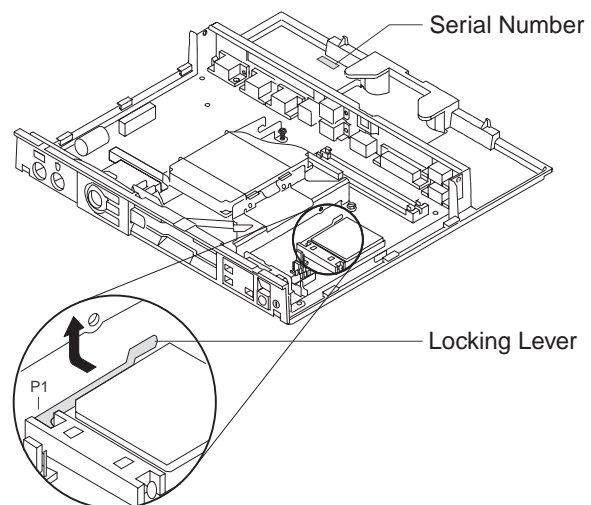

Figure 3-38. Processor Locking Lever
- 5 Remove the following parts from the old system board, if installed on system boards with serial numbers beginning with 41-Dxxxx and above or 77-S2xxx and above. See Figure 3-38 for serial number location.
- 3 Slightly push the locking lever towards the left side and then lift upward. See Figure 3-38.